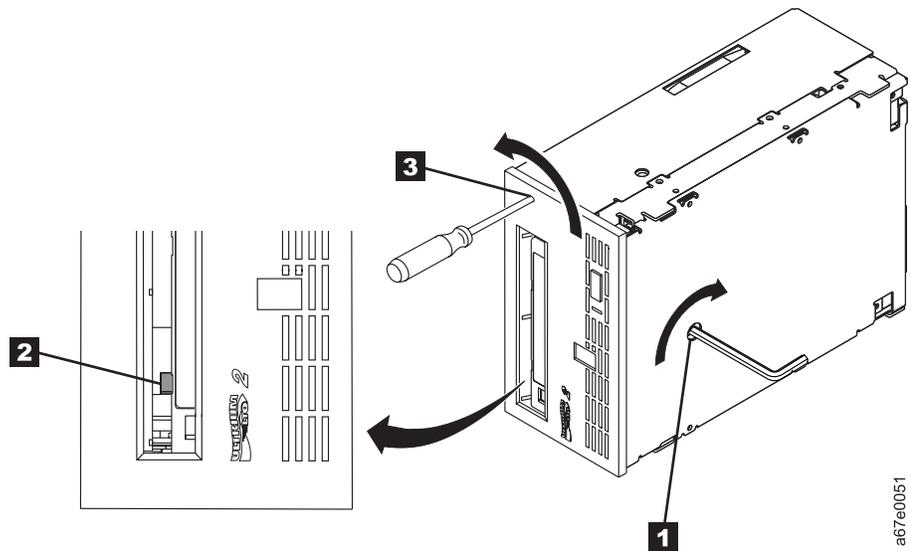

Figure 19. Determining whether the tape is broken
1. Place the drive so that the front faces you, then tilt it on its left side (see Figure 19).
2. Locate the access hole at the bottom of the unit (see **1** in Figure 19).